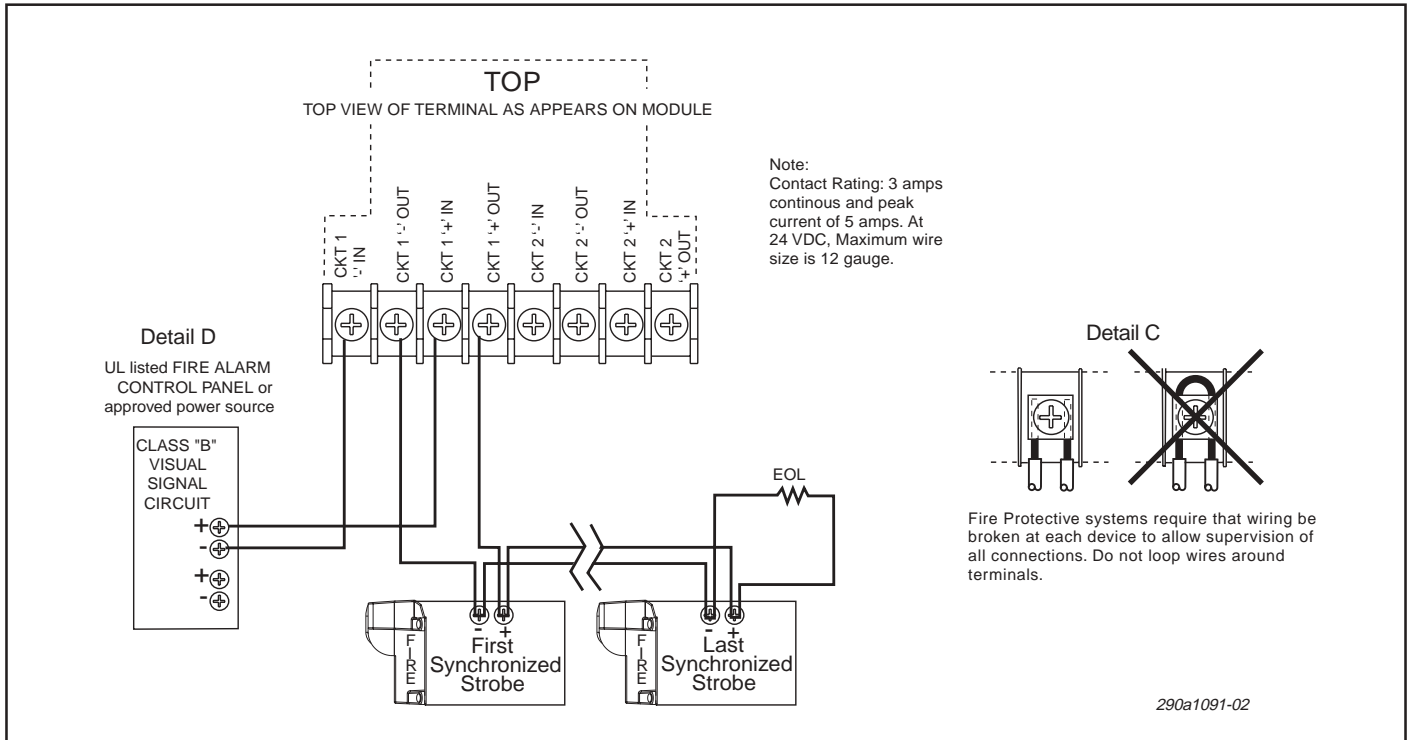

Figure 2. VSYNC with Style Y (Class B) Circuit.
1. Attach wires to proper terminals as required for circuit type (Figures 2 and 3).